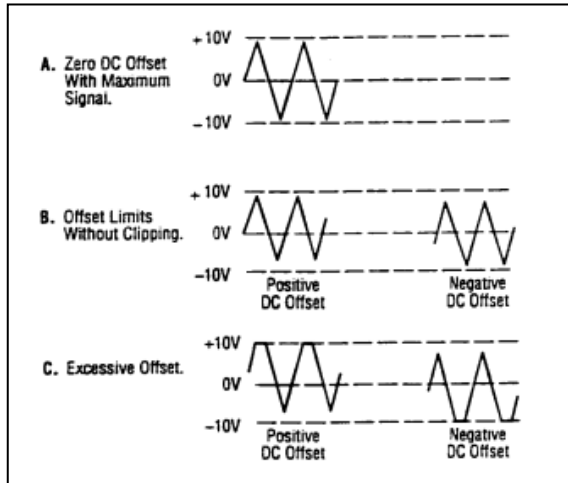

Figure 3. Use of DC OFFSET Control
6. Remember that the output signal swing of the generator is limited to ± 10 volts open circuited or ± 5 volts into $50\ \Omega$, and applies to the combined peak-to-peak signal and DC offset. Clipping occurs slightly above these levels. Fig. 3 illustrates the various operating conditions encountered when using the DC offset. If the desired output signal is large or if a large DC offset is required, an oscilloscope should be used to make sure that the desired signal is obtained without undesirable clipping.
7. A superimposed DC component can be added to the output signal by engaging the **DC OFFSET** switch (12) to enable operation of the **DC OFFSET** control (5). Rotation of this control adds a positive or negative DC component to the output signal. The DC component introduced is independent of the **OUTPUT LEVEL** control and can be varied by ± 10 volts open circuited or ± 5 volts into $50\ \Omega$. The DC Offset does not affect the **TTL/CMOS** output jack. The effect of DC OFFSET is shown in Fig. 3.